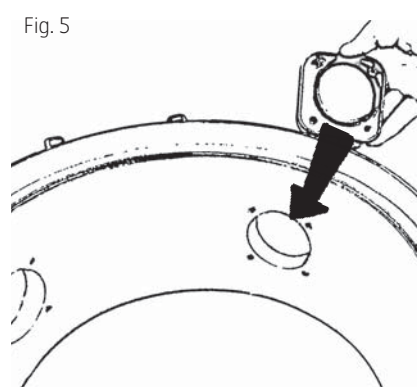

Fig. 5
4. Adapt (move) the suction pipe socket to the new outlet. **NB!** The socket is marked "Up". Make sure the socket is fitted with "Up" uppermost. Fasten the socket by fitting and tightening the four screws, Fig. 5.